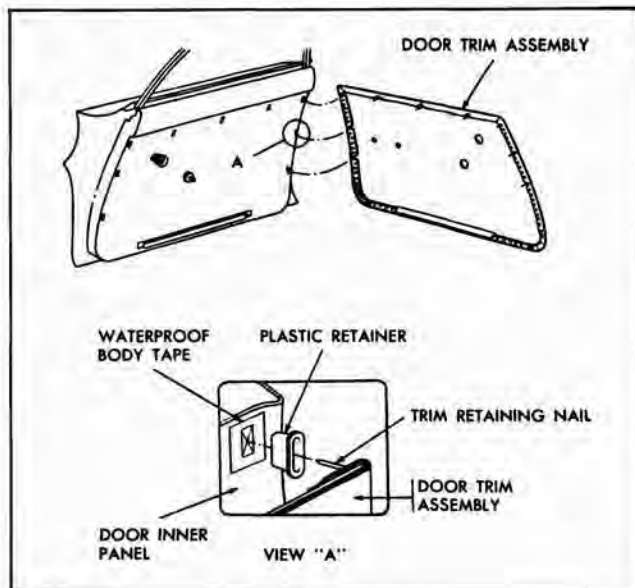

Fig. 13-3 Door Trim Installation
4. Starting at top of trim assembly, carefully insert tool J-6335, or a suitable flat-bladed tool, between door trim assembly and door inner panel at retaining nail locations and disengage nails from retainers (Fig. 13-3).